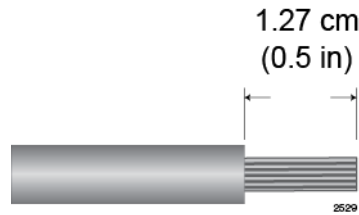

Figure 142. Stripping the Power Wires
1. Prepare adequate lengths of two stranded 8 AWG power wires by stripping them as shown in Figure 142.